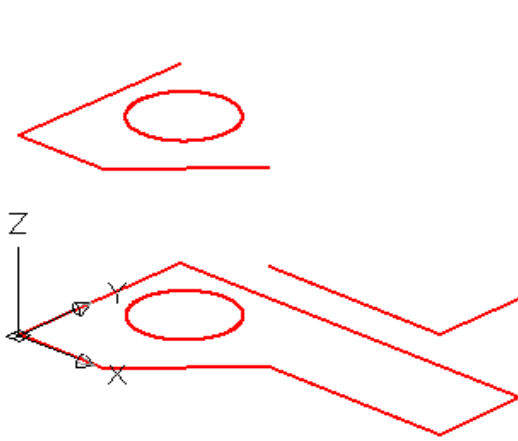

Figure Step 10
Step 10 Using the COPY command, copy the 2 lines 2 units in the positive Z directions as shown in Figure Step 10.